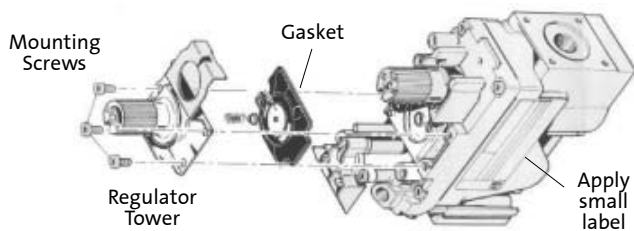

Figure 21. Regulator Assembly.
10. **Replace the Variable Regulator.** Using a Torx T-20 screwdriver, remove the three specialty screws from the front of the valve regulator. See fig. 21.